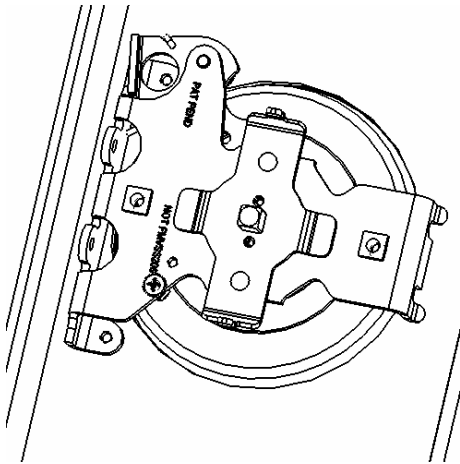

Figure 1
STEP 5: Install the new ROD PULLER in the orientation shown in Figure 1 below. Notice that the only difference in the new ROD PULLER is that it has two additional holes in it.